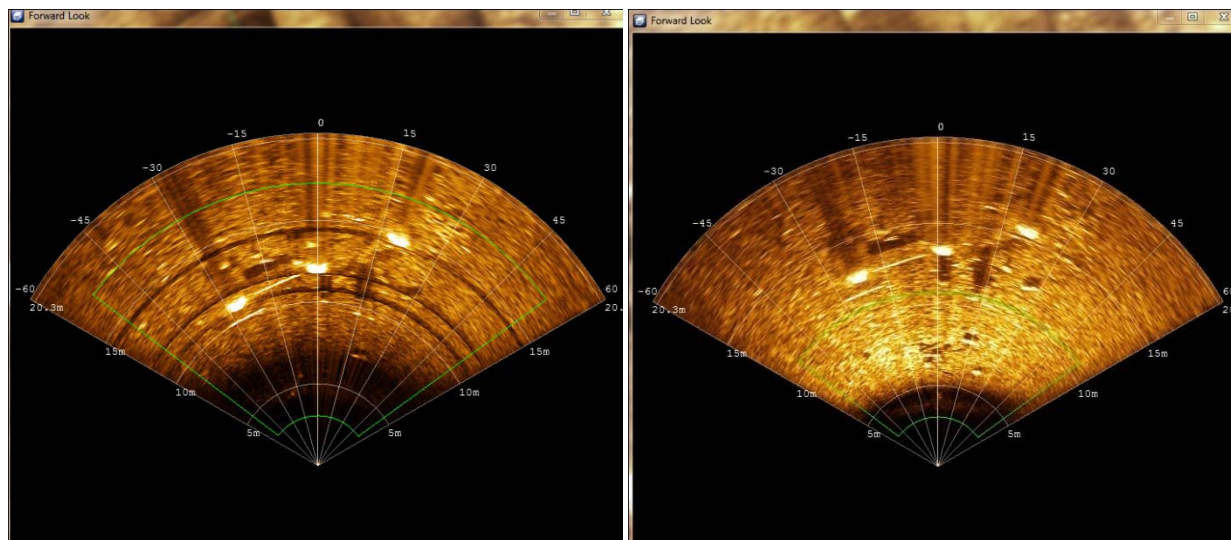

Figure 34. Black banding artefacts with high gain and the same data with lower gain.
The range slider enables the user to specify the maximum range the sonar will scan (or ping period). Longer ranges mean longer ping periods, since the ping must travel further. The gain slider enables the user to control the relative sonar receive gain. Gemini users may experiment with this setting according to their preference and water and target conditions; OIC has found the 60-75% range a useful starting point in our test marina. Setting the gain too high introduces artifacts into the sonar data (Figure 34).
4. Click the **Reset to International Standard (IS) units** button to reset the default settings.
5. Click the world icon to the far right of the status bar (Figure 34).